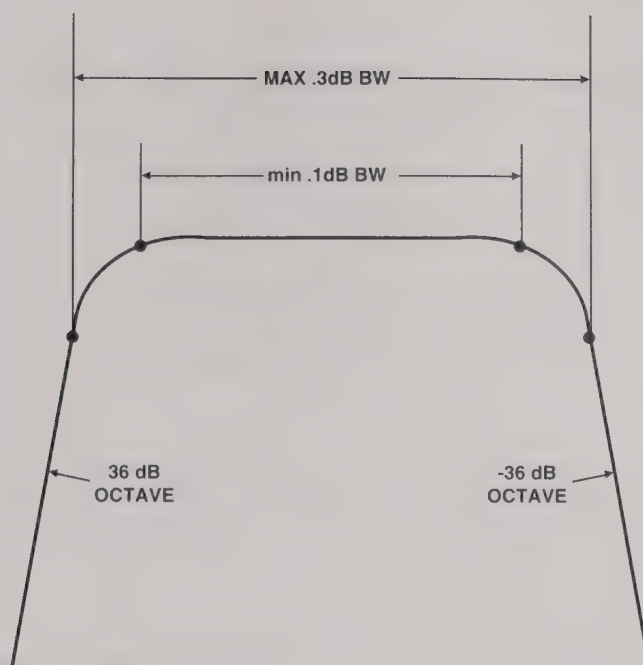

Figure B-2
- Specified at the .1 dB and 3 dB points with 36 dB octave roll-off (see Figure B-2 and Table B-2).